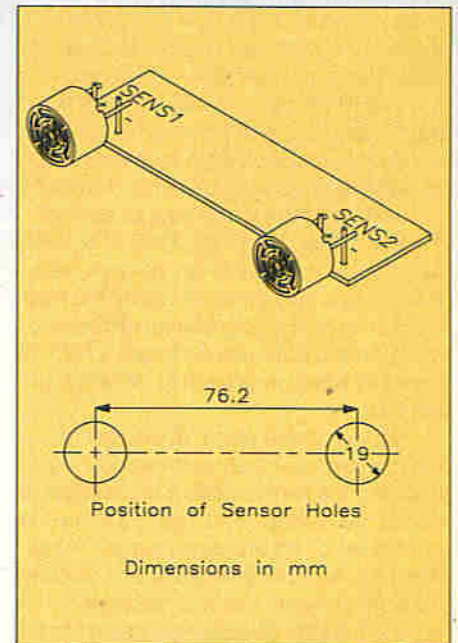

Figure 2. Horizontal method of mounting the sensors.
1) With the sensors in the horizontal position (Figure 2): Fit the four terminals for SENS1 and SENS2 and solder the sensors to the terminals so that they are horizontal with respect to the PCB. Drill two holes in the box as shown. Install the PCB behind the holes using plastic pillars, so that the sensors are aligned facing the holes without touching the box.